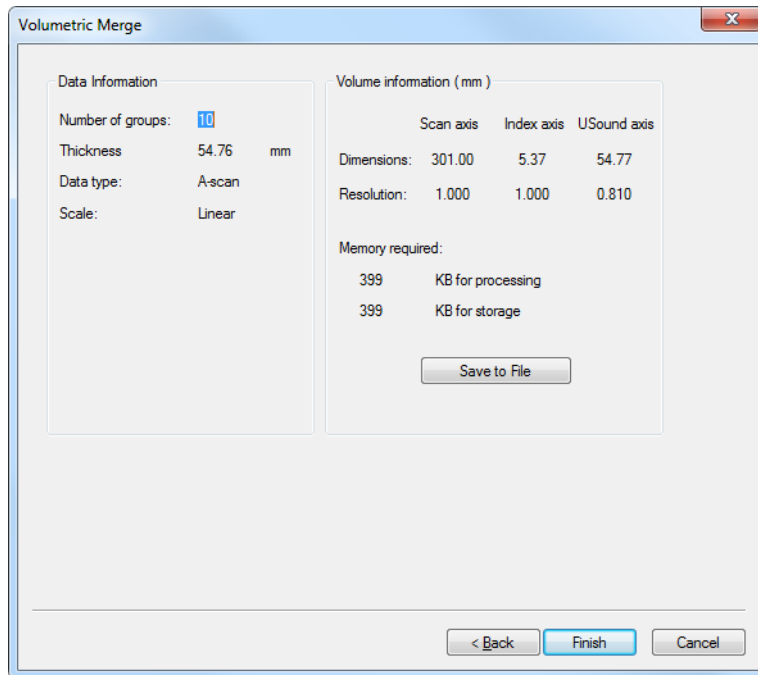
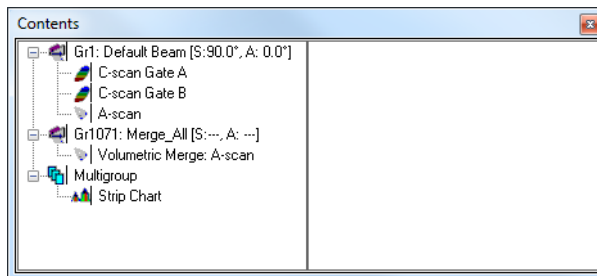

Figure 7-7 The Data information and Volume information group boxes
Figure 7-8 Example of the volumetric merge group created
7. Referring to (see Figure 7-7 on page 341), perform the following tasks:
The merged group is added to the contents (see Figure 7-7 on page 341 and Figure 7-8 on page 341).